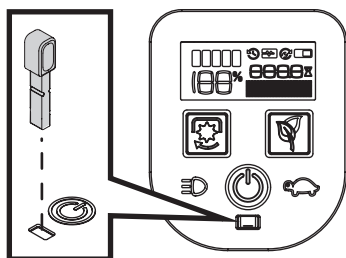

Figure 16
2. Key Switch - The key switch is located in the center of the VCM and powers the VCM when the key is fully inserted. The tractor cannot be started unless the key is fully inserted and the START/STOP button is depressed. Removing the key turns the tractor off (Figure 16).